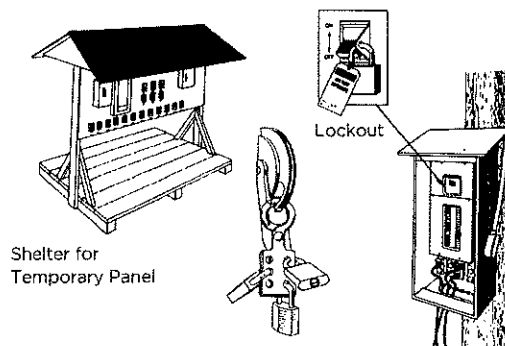

Figure 26-17: Shelter and Lockouts for Temporary Panels
- must be housed in an enclosure that can be locked and is provided with a locking device (Figure 26-17). (O. Reg. 213/91, s. 194)